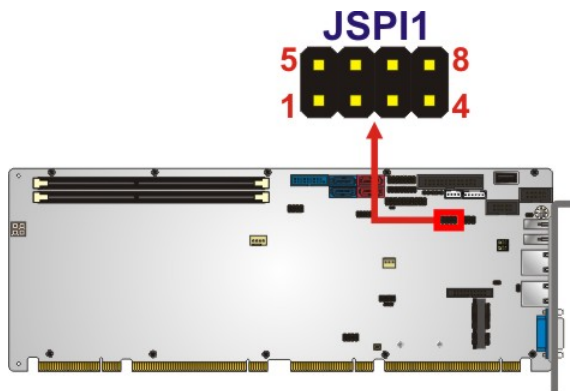

Figure 3-24: SPI Flash Connector Location
- CN Location:** See Figure 3-24